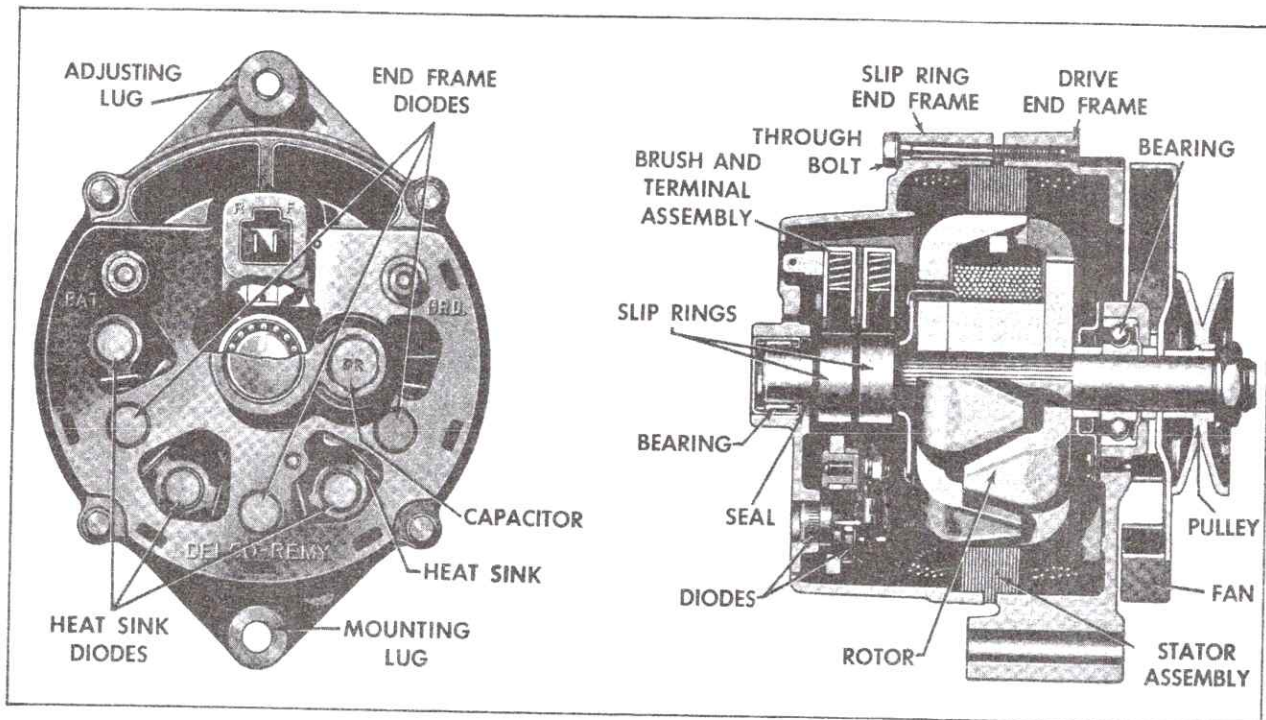

Fig. 6-35 Generator Cut-Away View
1. Remove four through bolts securing drive end frame to slip ring end frame, Fig. 6-35.